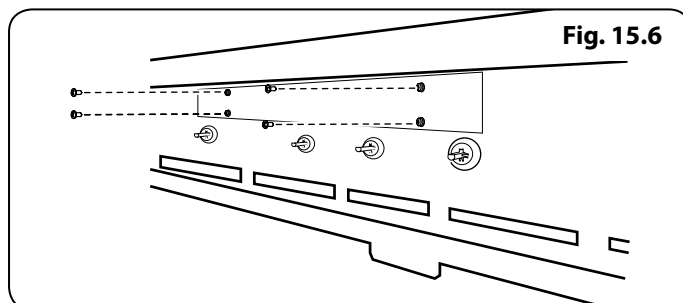

Fig. 15.6
1. Remove the 4 screws from the cover plate as shown in (**Fig. 15.6**).